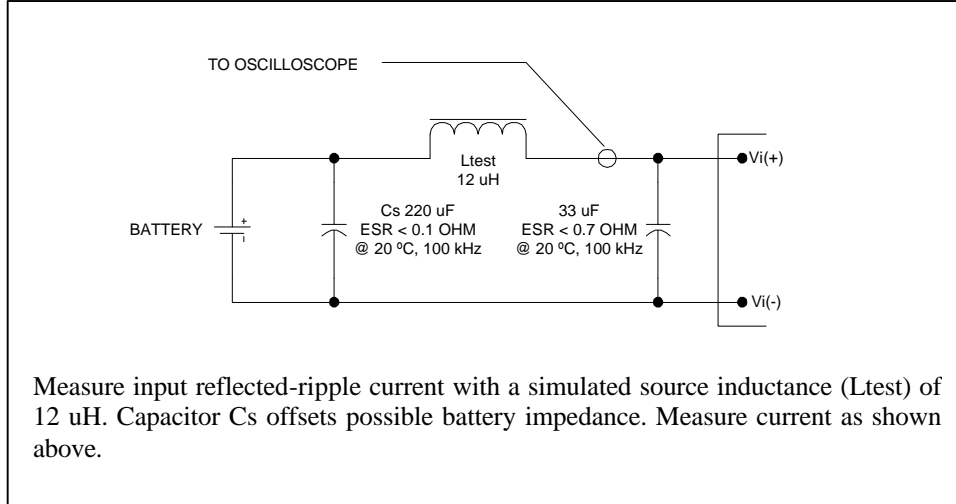

Figure 1. Input Reflected Ripple Current Measurement Setup.
3. Refer to Figure 1 for the input ripple current test measurement setup.